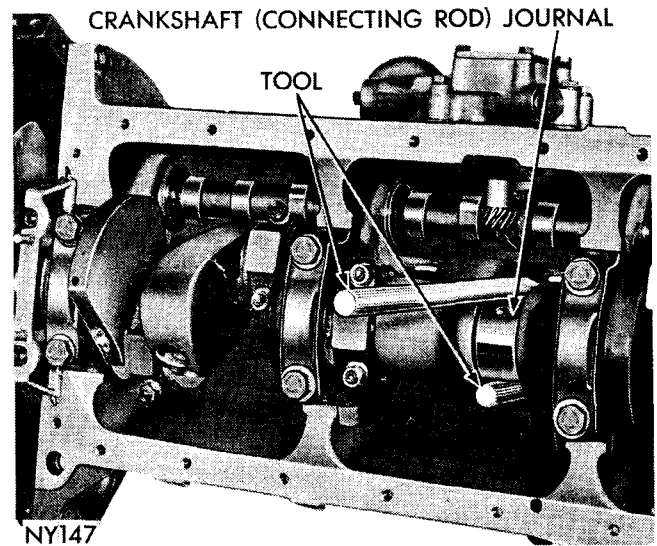

Fig. 39—Removing and Installing Connecting Rod
(5) Screw connecting rod bolt protector (part of Tool C-3221) on one rod bolt, and insert rod and piston into cylinder bore. Rotate crankshaft so that connecting rod journal is on the center of cylinder bore.
(6) Attach puller part of Tool C-3221 on other bolt, and guide rod over the crankshaft journal (Fig. 39). Be careful not to nick connecting rod journals.
(7) Tap piston down in cylinder bore, using handle of a hammer. At the same time, guide connecting rod into position on crankshaft journal.
(8) Install rod caps, tighten nuts to 45 foot-pounds.